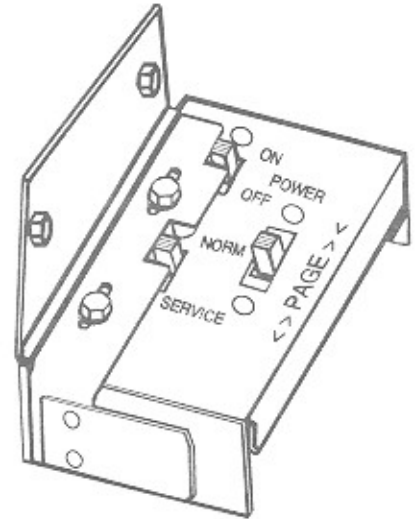

Figure 2-4. Service Switch
7. Repeat Steps 4 and 5 until all titles are installed. Use the PAGE switch (*Figure 2-4*) to change title pages. Insert filler title strips to fill out any unused space left on a page. Insert these in the same way that you installed the fill-in title strips.
2. Move the SERVICE switch to the SERVICE position (Refer to *Figure 2-4*).
2. Move the SERVICE switch to the SERVICE position (*Refer to Figure 2-4*).